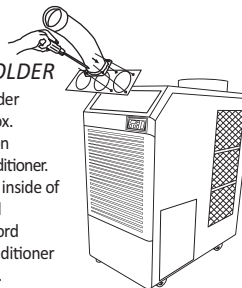

Figure 23
3. Use screws (enclosed inside of box with cool air outlet hose(s)) to install the cool air outlet hose(s) on the air conditioner as shown in Figure 23.